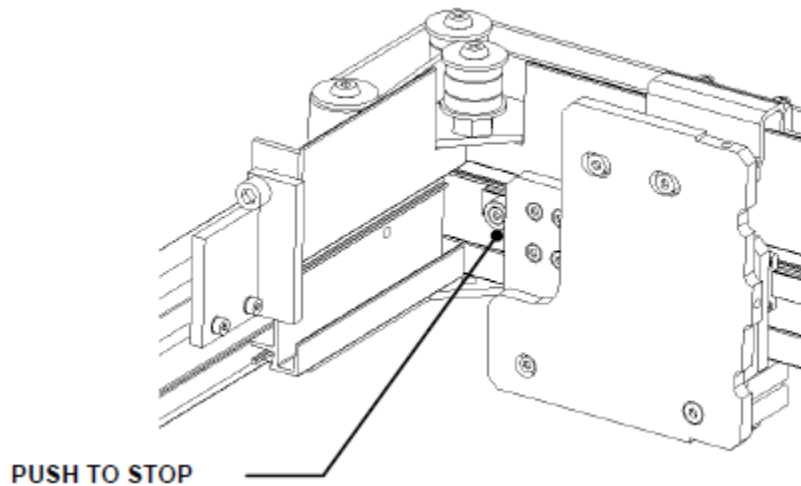

Figure X-17: Positioning Y Drive Plate Front
7. Push Y Drive Plate Front to the stop shown in Figure X-17.